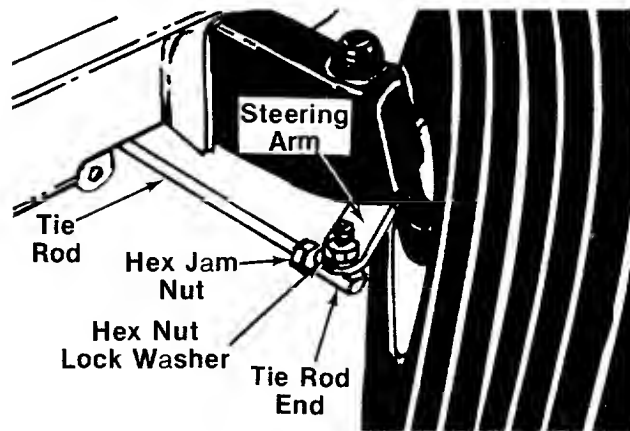

FIGURE 17.
1. Remove the hex nut and lock washer, and drop the tie rod end from the wheel bracket. See figure 17.